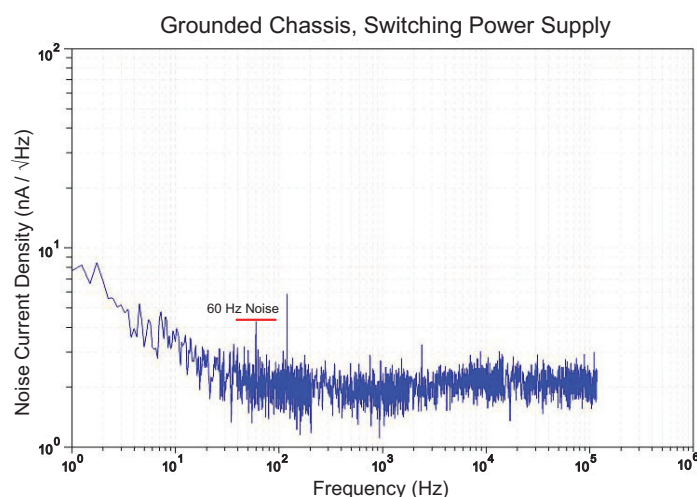

**Figure 14. Noise Plot with Floating Chassis and Linear Power Supplies**
**Figure 14** through **Figure 16** illustrate the benefits of using high-quality switching power supplies and grounding the chassis.